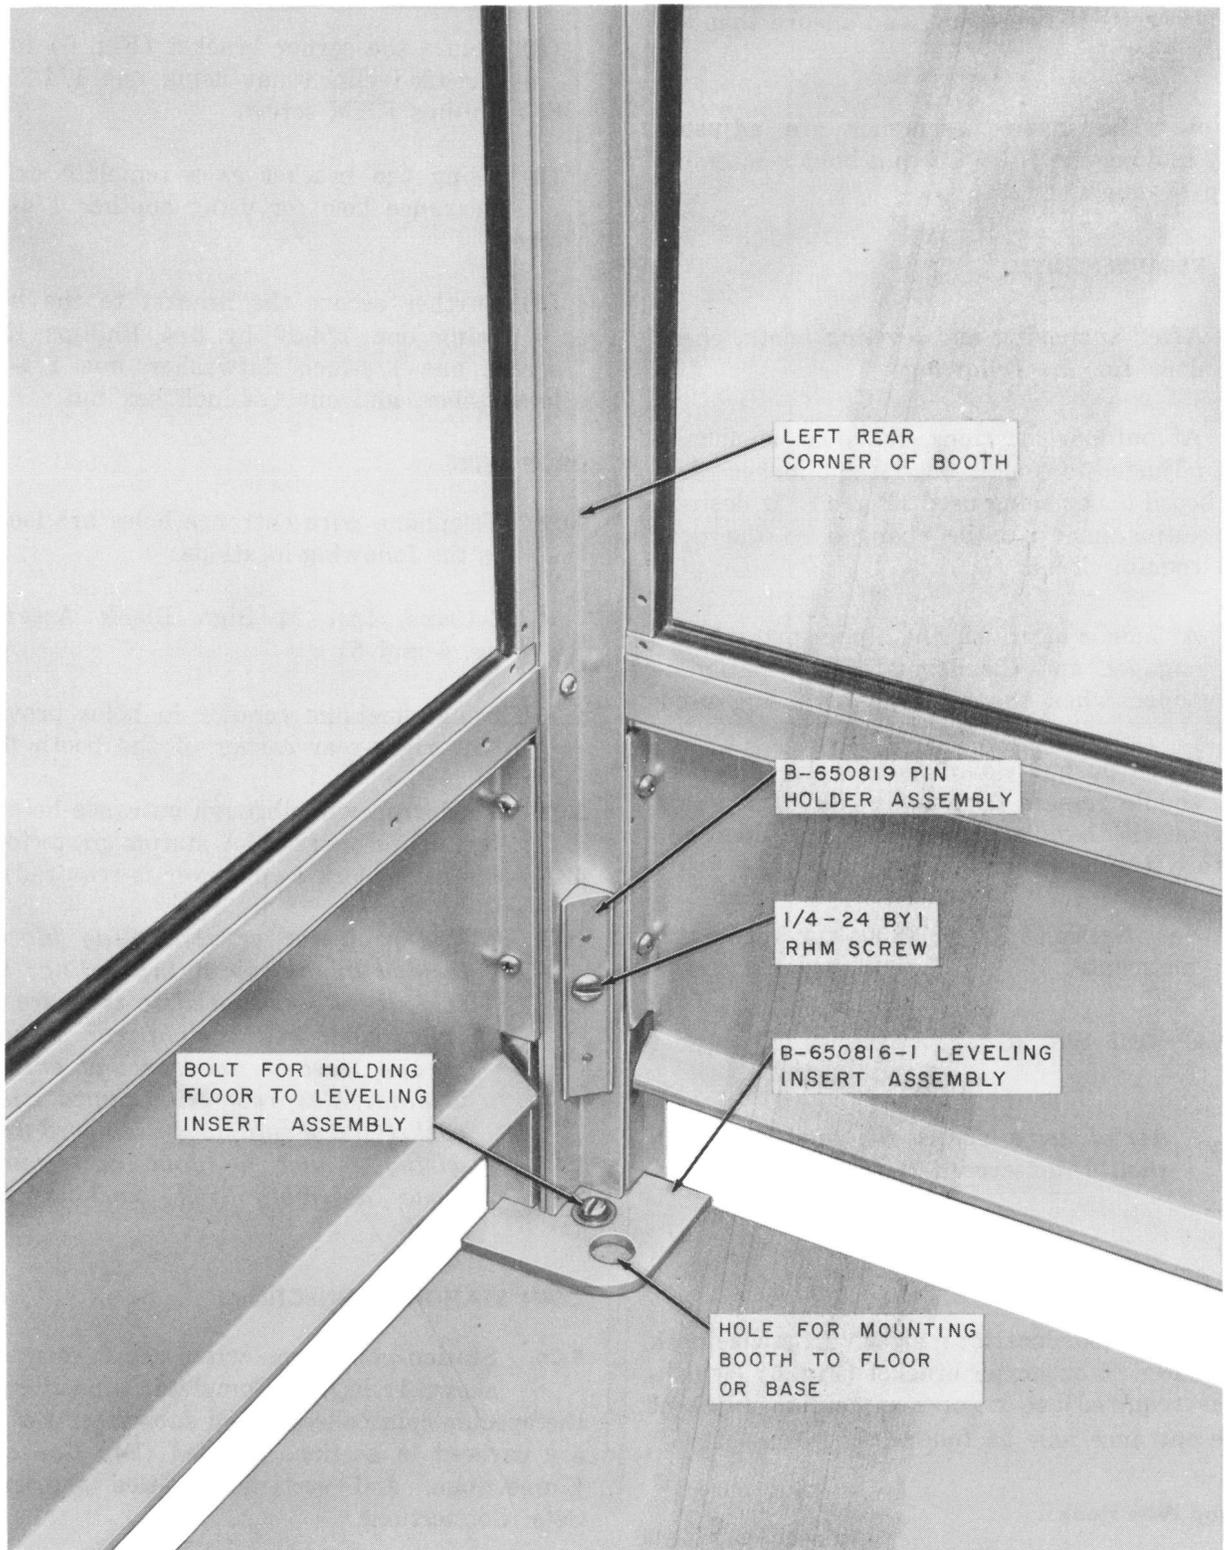

Fig. 3 — Leveling Insert Assembly
- (a) If a KS-19425, List 10 foundation template is used, remove insert plugs from template and secure leveling insert assemblies (Fig. 3)
- (d) Adjust the leveling insert assemblies (Fig. 3) if necessary, and ensure that the booth is level.